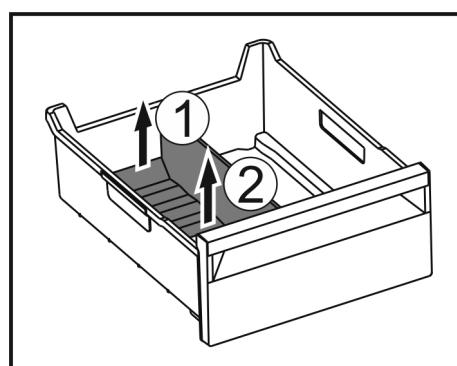

Fig. 159
- Lift the rear part of the ice compartment divider. Fig. 159 (1)
- Remove the ice compartment divider upwards. Fig. 159 (2)